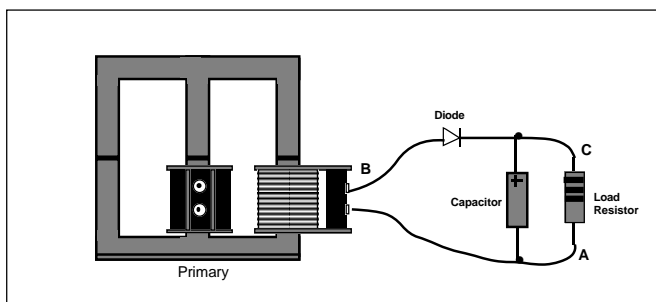

Figure 4
- Set up the 200-turn coil as primary, and the 800-turn coil as the secondary. Put a diode into the circuit as shown in Figure 4, and leave the 1000- Ω resistor in as a load.
- Add the 470 μF capacitor as shown in Figure 4. What is the new waveform across the load resistor? Is it still varying as much as it did previously? What is the d.c. level of the resulting voltage?